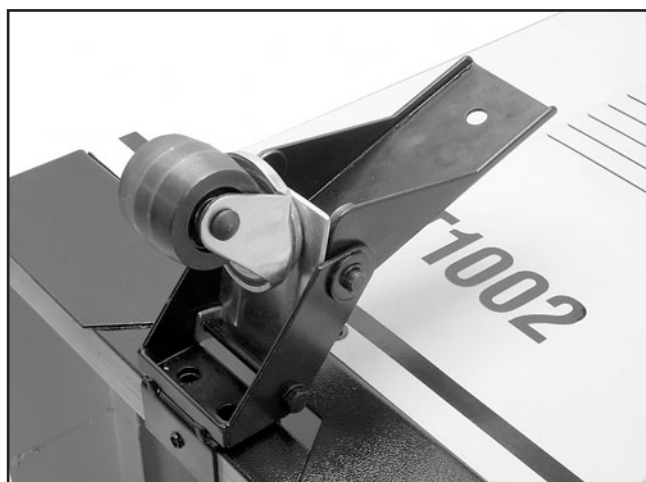

Figure 8. Wheel assembly placed on cabinet.
1. Turn the cabinet on its back side, place the wheel assembly over the bracket, and align the mounting holes as shown in **Figure 8**.